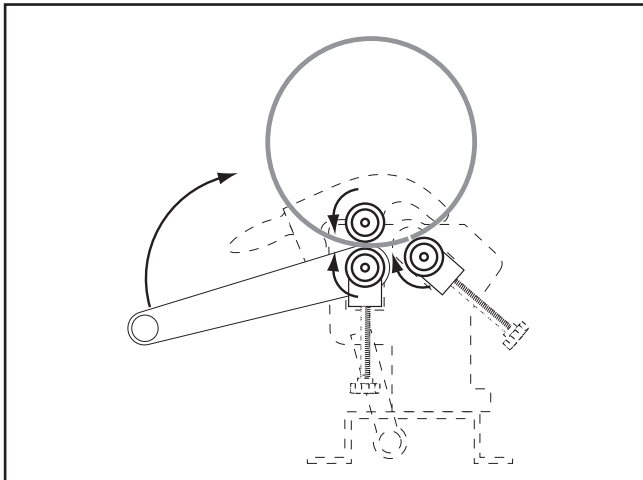

Figure 26. Finishing the cylinder.
- Continue to process the workpiece until the cylinder is formed, as shown in **Figure 26**.